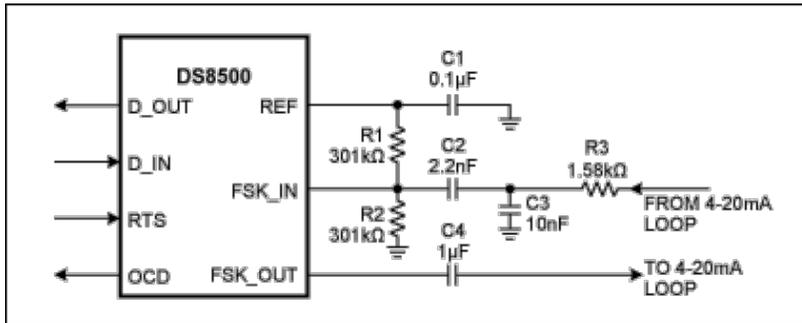

Figure 5. Receive/transmit side external components.
**Figure 5** shows the few external components needed on the receive and transmit sides. The demodulator in DS8500 requires just a simple lowpass filter with a cutoff frequency of 10kHz (R3, C3) and a highpass filter with a cutoff frequency of 480Hz (C2, R2) to separate the HART signal from the analog signal and interferences. The resistor-divider formed by R1 and R2 provides an input bias voltage of  $V_{REF}/2$  to the DS8500's receive-side circuitry. The RC values shown below are just an example; a different set of RC values can be used, if the cutoff frequencies of lowpass and highpass filters are met.